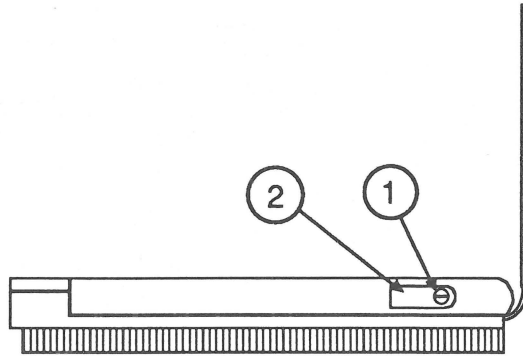

FIGURE 6
3. Using a large flat-blade screwdriver or a coin, unscrew (counterclockwise) the latch (Figure 6, #1) on the side door (Figure 6, #2) on the right side of the scanner.